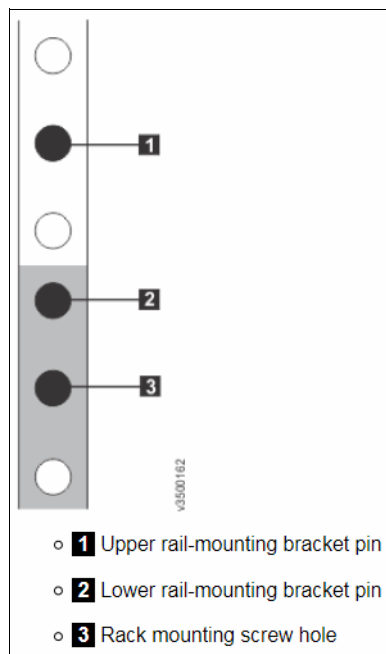

Figure 6-31 Rack hole locations in the front of the rack
2. Working at the front of the rack cabinet, identify the two standard rack units (2U) of space in the rack into which you want to install the support rails. See Figure 6-31.